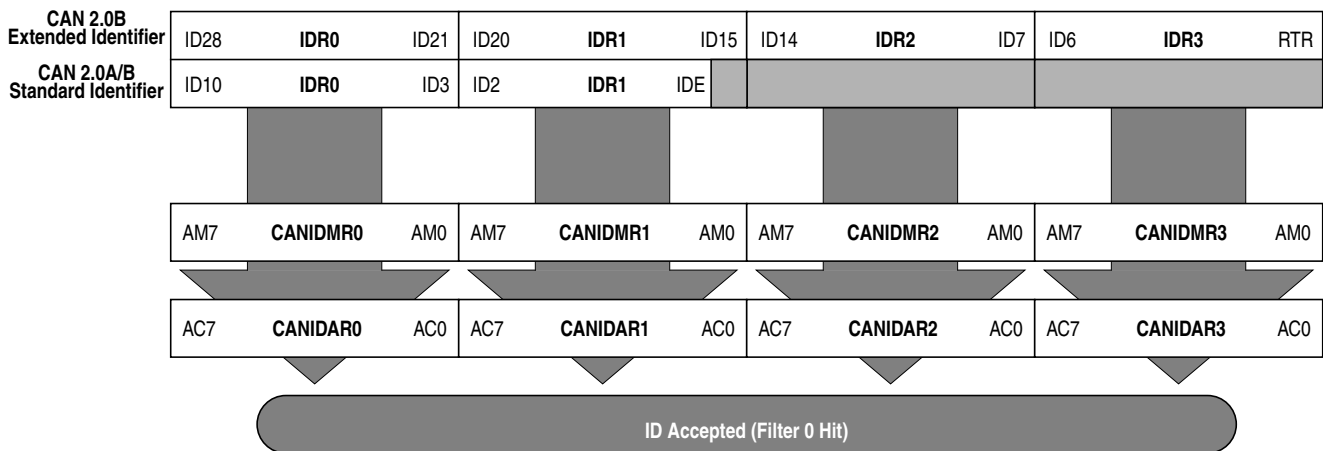

Figure 12-39. 32-bit Maskable Identifier Acceptance Filter
- The 11 bits of the standard identifier plus the RTR and IDE bits of the CAN 2.0A/B messages1. This mode implements two filters for a full length CAN 2.0B compliant extended identifier. Figure 12-39 shows how the first 32-bit filter bank (CANIDAR0–CANIDAR3, CANIDMR0–CANIDMR3) produces a filter 0 hit. Similarly, the second filter bank (CANIDAR4–CANIDAR7, CANIDMR4–CANIDMR7) produces a filter 1 hit.